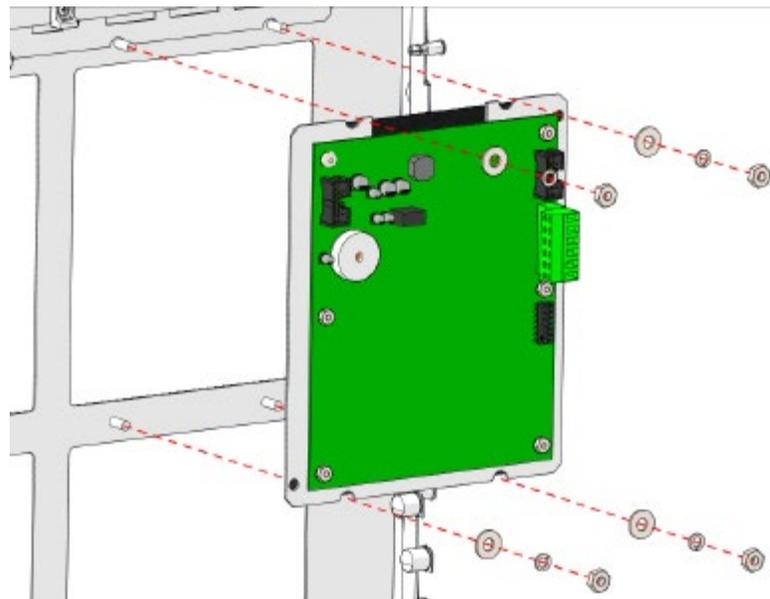

Figure 39 - Switch LED Module Installation
2. On the NX10-ACS-DSP keyboard display (PCB), remove the two (2) right side bottom screws securing the PCB to its associated mounting plate.
3. With the NX10-ACS-DSP PCB screws removed, install the two male/female nylon standoffs supplied (Figure 39).
4. Mount the NX10-EM-PRN adapter card to the standoffs and secure it with the removed two (2) panhead screws (Figure 39).